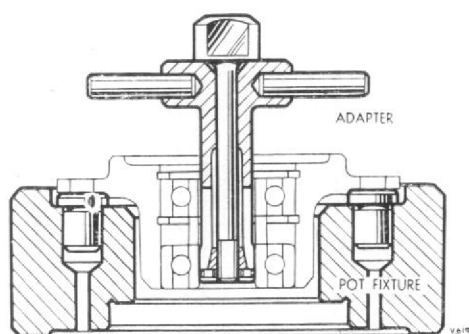

Fig. 17. Pot fixture T.77662 and adapter T.77663 for pressing out second ball bearing from tachometer drive gear housing.
4. Pass the collet of expanding adapter T.77663 through the bore of the nearest ball bearing and locate it inside the bore of the second one; utilising the centre bolt, expand the collet. Press the bearing out of the housing, Fig. 17.